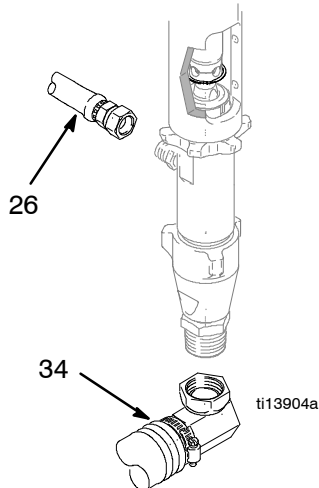

Fig. 7
3. Fig. 7. Remove suction tube (34) and hose (26).